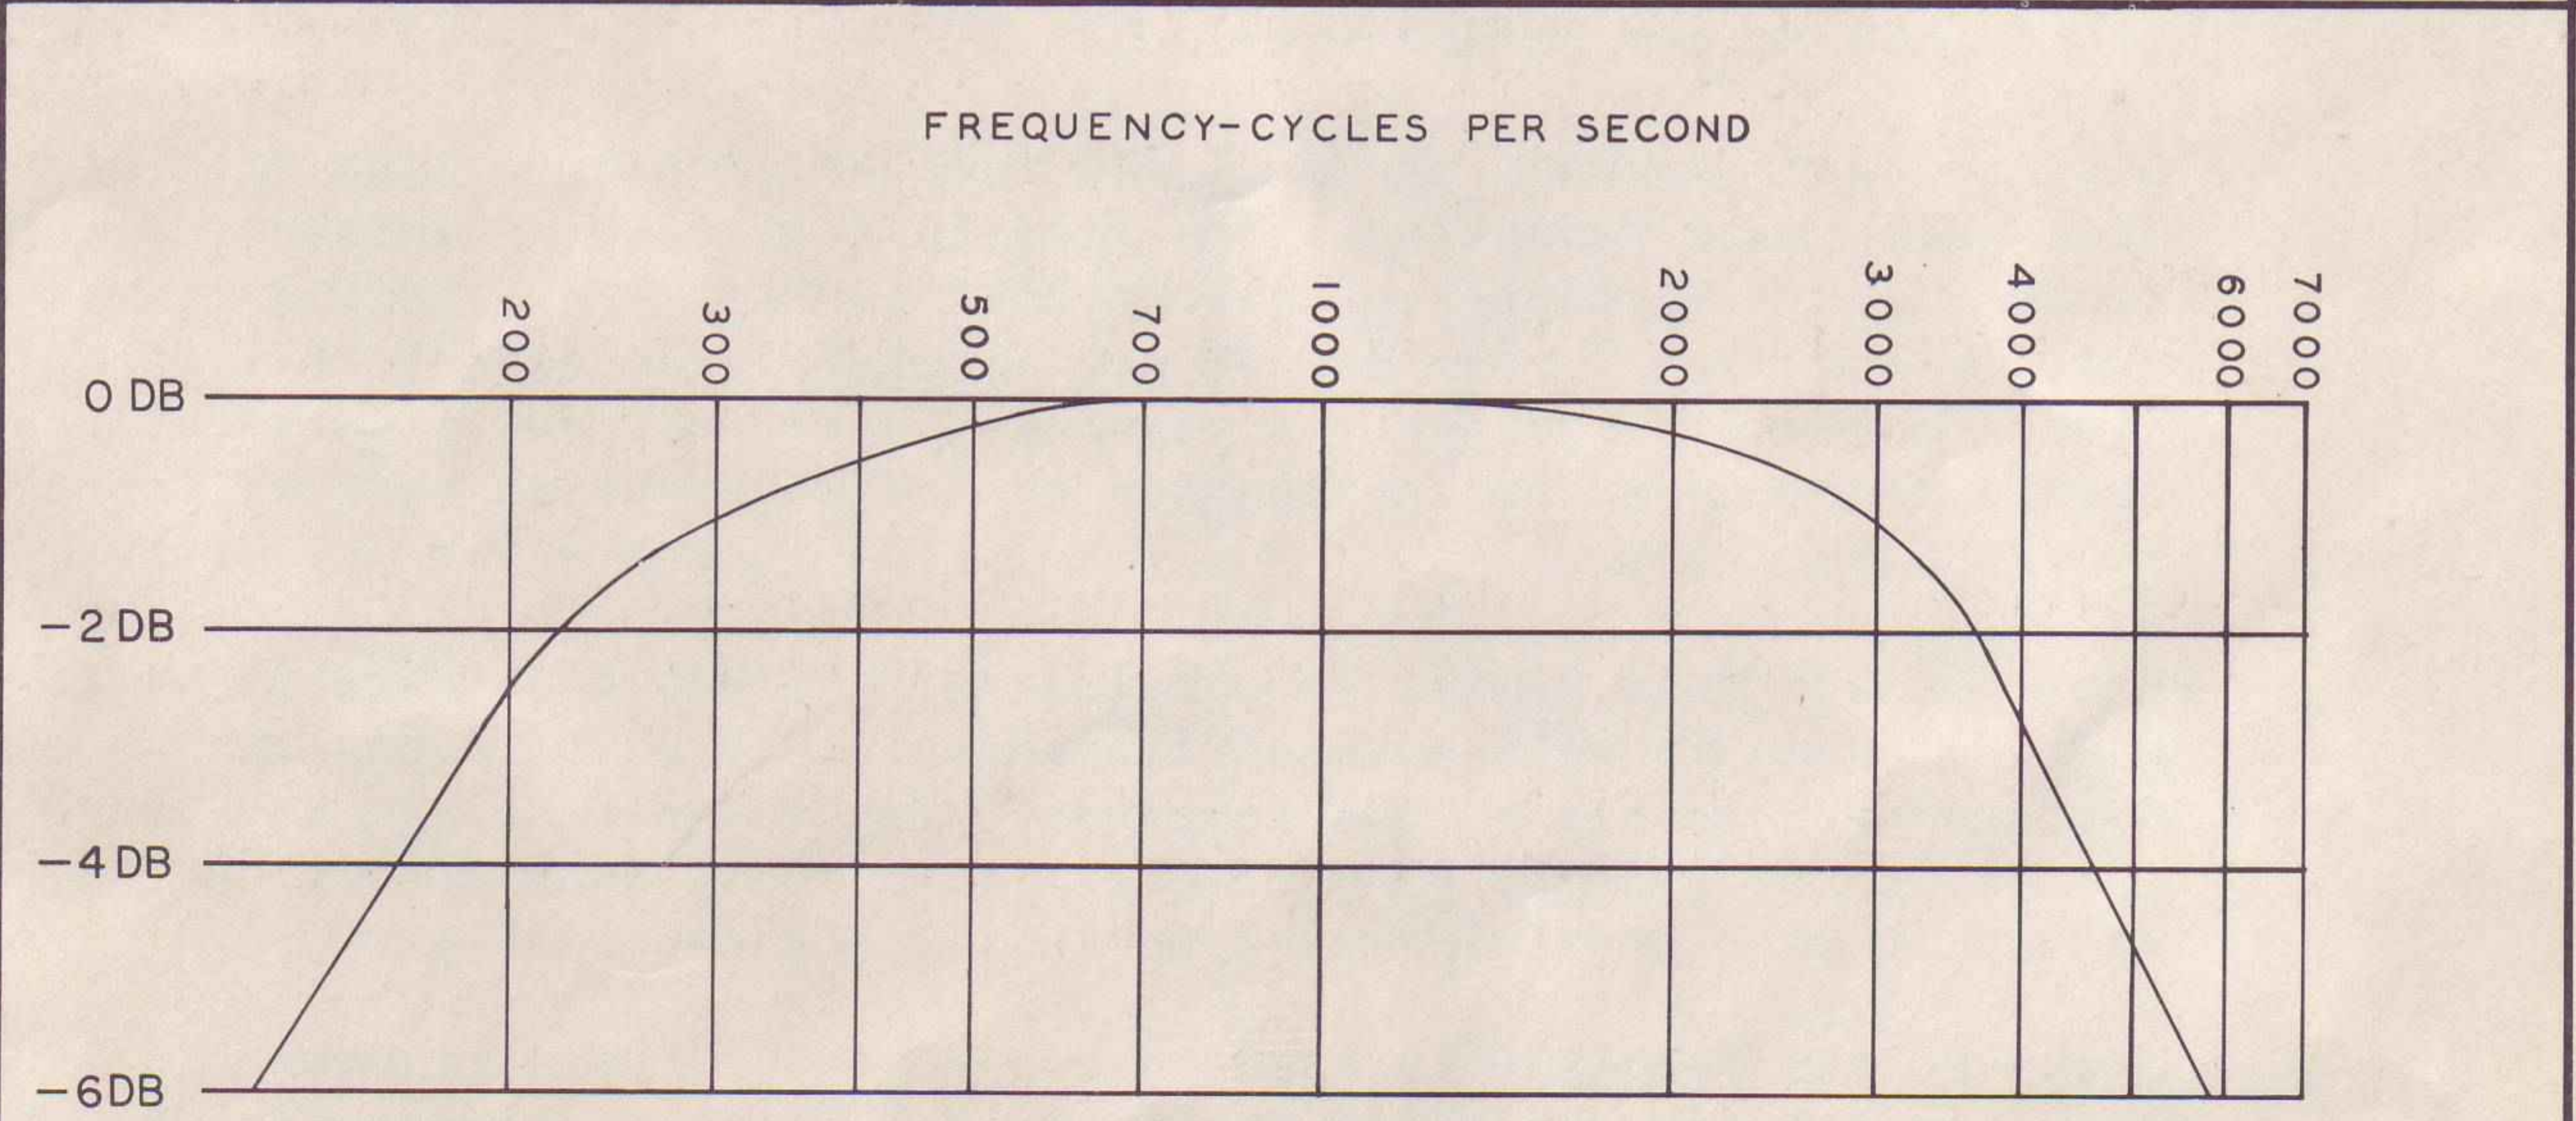

FIG. 3
**Output:** 3.2 ohms nominal to speaker voice coil or headphones, (low or high impedance). Audio power at 3.2 ohms, 3 watts maximum. Response limited to voice range from 200 to 4000 cycles. See A.F. response curve, Fig. 3.